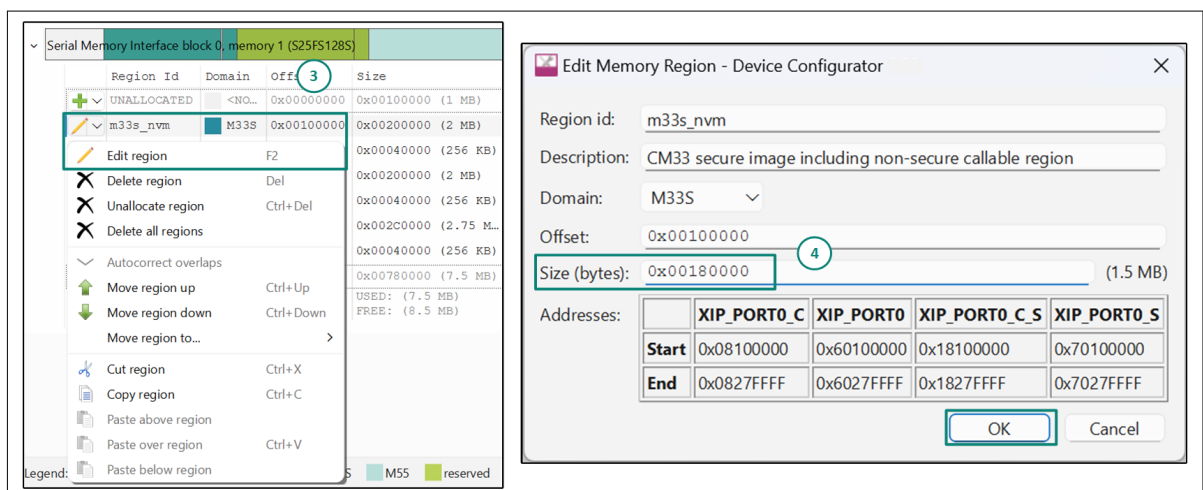

Figure 11 Edit the memory region
- Click on the 'Pencil' icon located next to the m33s_nvm memory region and select 'Edit Region' from the drop down menu to open the memory region editor window as shown in Figure 11. Alternatively, you may also select the memory region and press F2 key on the keyboard to open the memory region editor window
- Update the size of the m33s_nvm region to 0x180000 (which corresponds to **1.5 MB**) as shown in Figure 11. Click on 'OK' to update the memory region